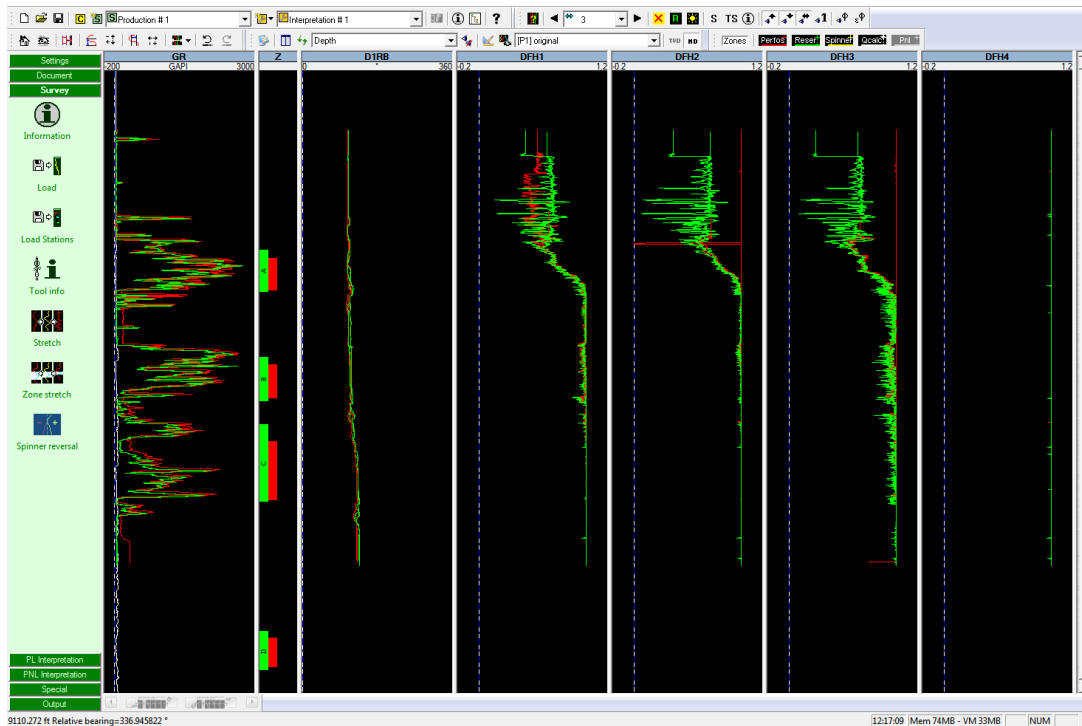

Fig. B05.11 • Layout for DEFT1
- In order to first look at DEFT1, re-arrange the screen as on Fig. B05.11 and show the following channels: GR, Z, D1RB, DFH1, DFH2, DFH3, DFH4. Based on this layout it is decided to make an image for pass Down2, bearing in mind that DFH4 may have to be ignored.